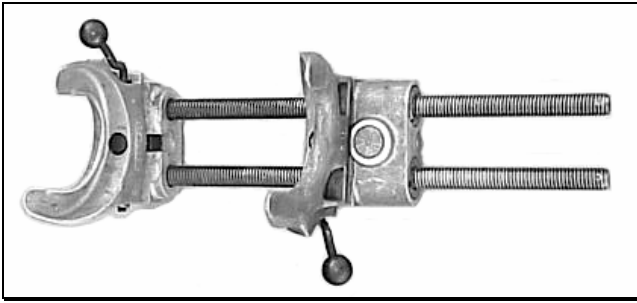

Figure 7
- 3) ☐ Compress the new front coil spring to 16 inches in length. Use a quality spring compressor like the one shown in figure 7.